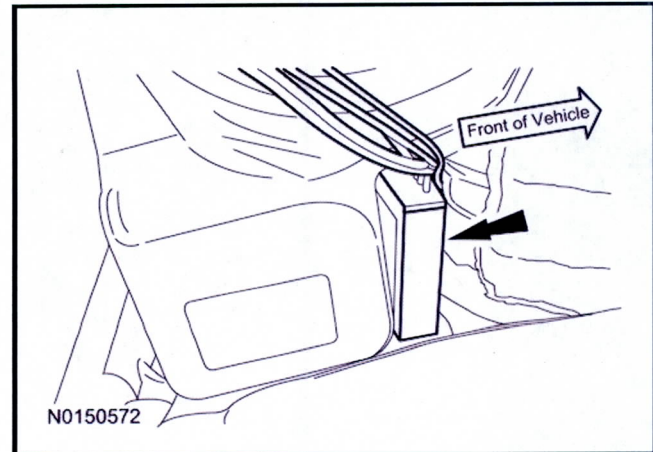

Figure 8 - Article 13-1-5
32. For vehicles equipped with premium sound, attach the converter module to the front of the subwoofer. (Figure 8)